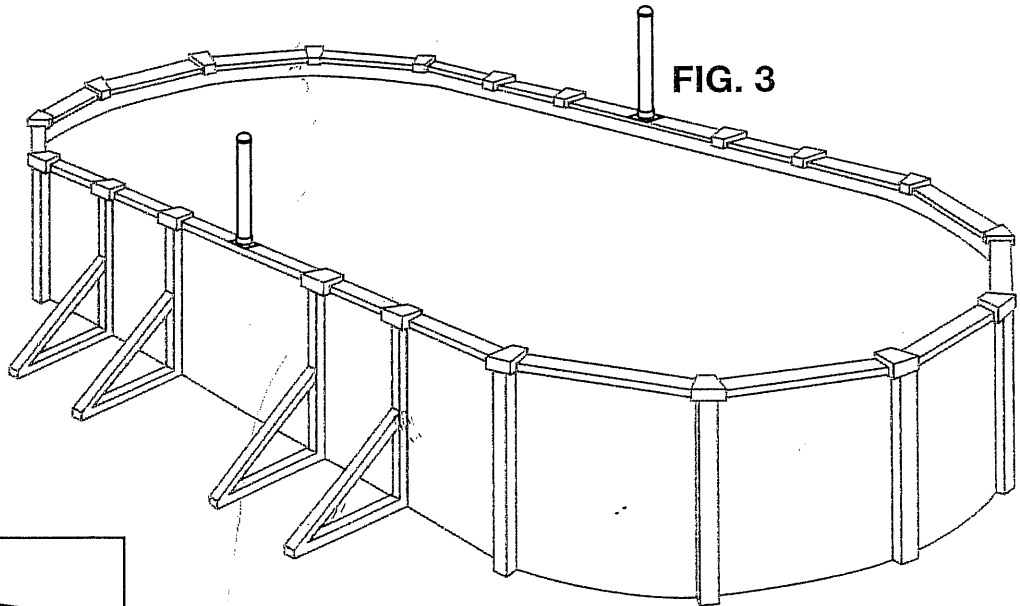

FIG. 3
1. Determine position desired for your Volleyball game, upright poles and net. You will need to install (2) sockets on opposing sides of pool, per Fig. 1 & Fig. 3. Secure each socket (see Detail A) to top rail of pool using (5) self-drilling screws provided. Begin installation with center screw. Note: Break-Away opening should face inside of pool.
3. Repeat step 2 on each side of the pool per Fig. 3.